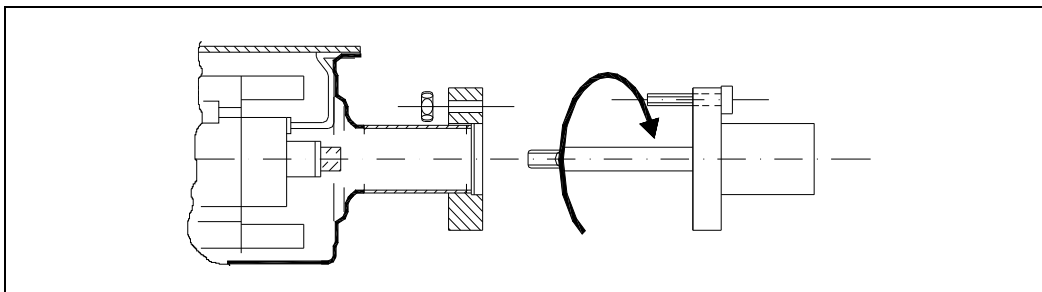

Figure 20 High voltage feedthrough connection
- 1 Remove the 6 bolts of the Mini-ConFlat flange connection (see Fig. 20).